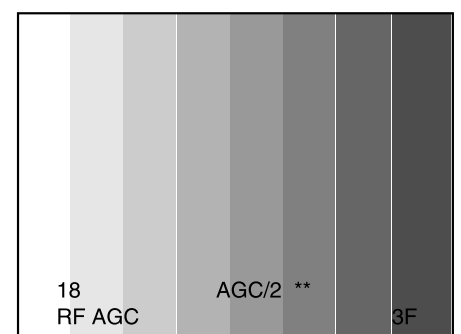

Fig. 1-6
1. Connect oscilloscope to IC301 ① PIN.
3. Use the volume keys on the jig remote controller and reduce the Fig. 1-6 value. (3E → 3D...) At this point, confirm the reduction of the test point voltage value.